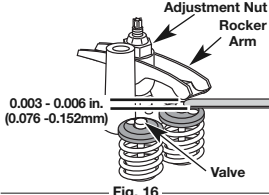

Fig. 16
- a. Turn the adjusting nut using a 5/16 inch (8 mm) wrench or nut driver (Fig. 16).